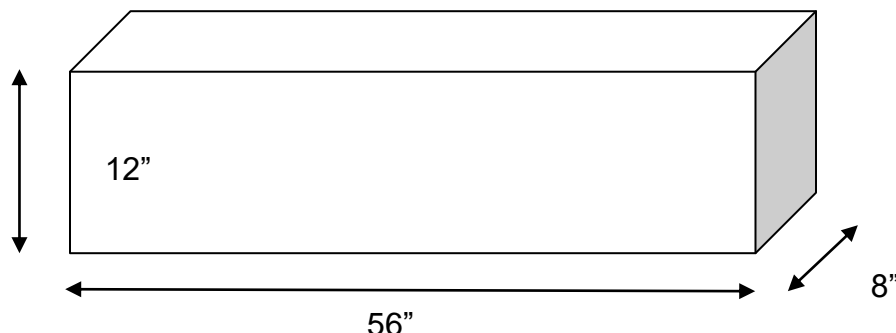

Figure 4 - Dimensions of the box where the bridge must fit in (Not to Scale)
- Bridge height shall not exceed 12-inches. Refer to figure 4.